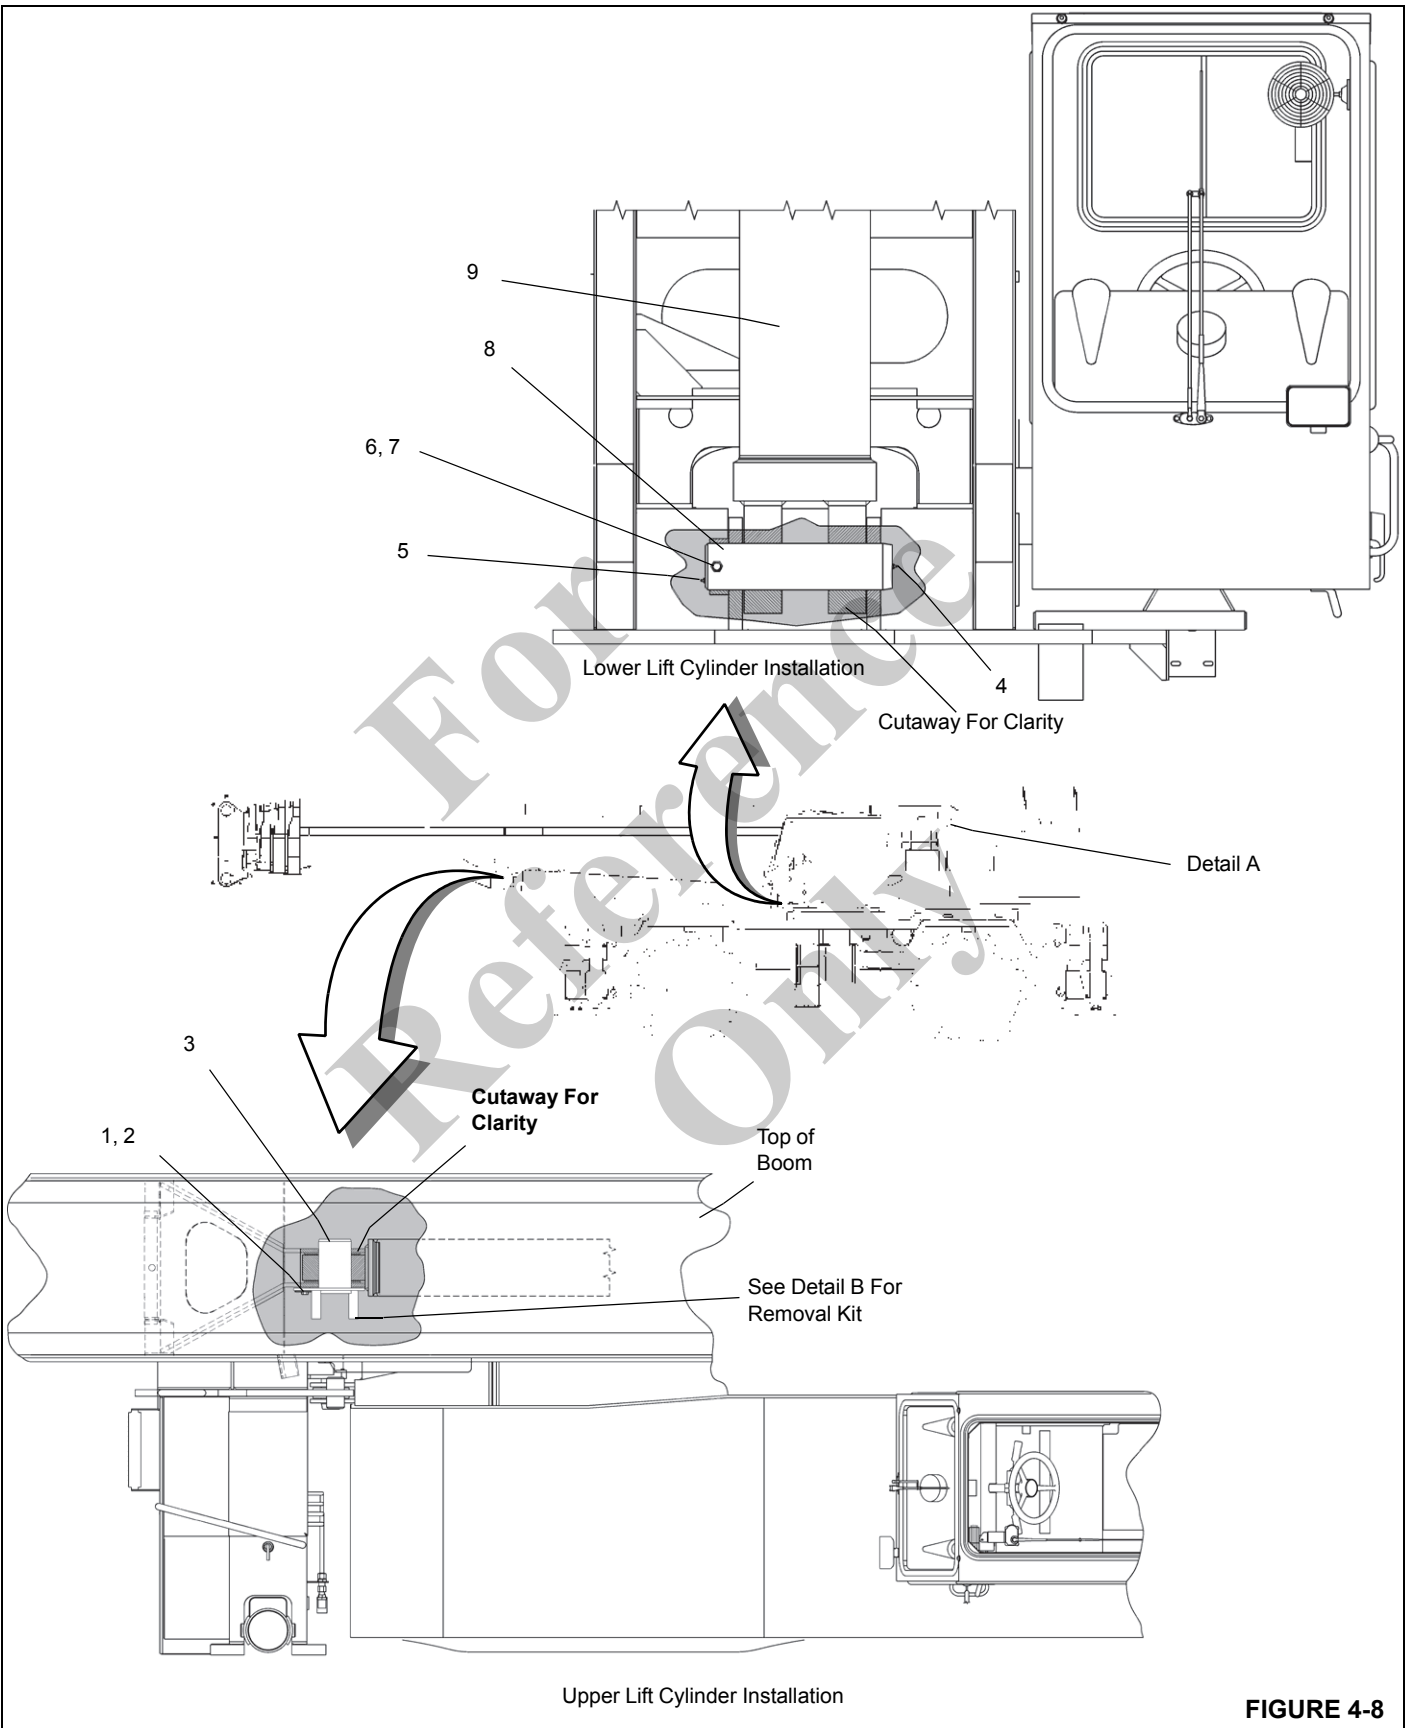

FIGURE 4-8
**NOTE:** Refer to Figure 4-8 for lift cylinder and boom pivot shaft installation.
FIGURE 4-8 continued